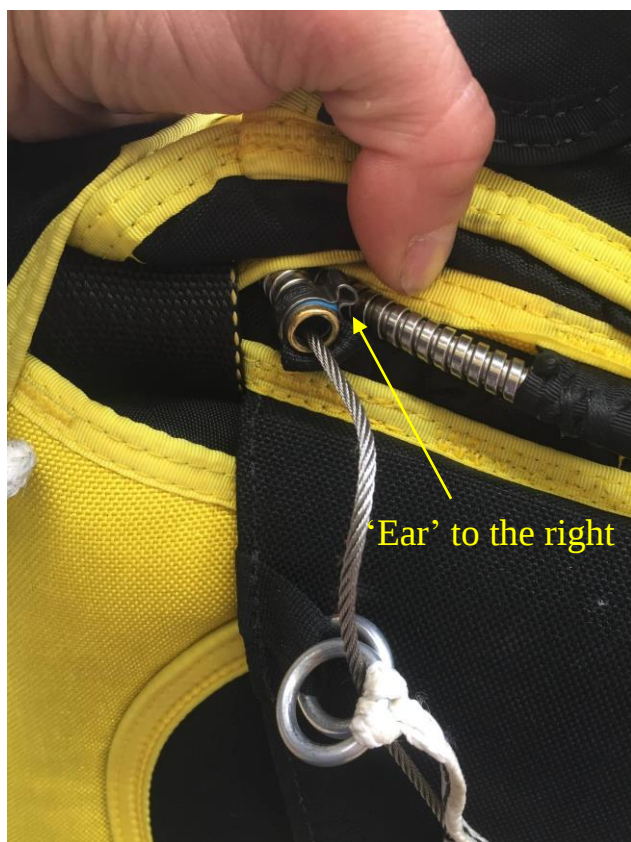

Figure 1
1. On the Sky Wide Systems (SWS) Fire containers the reserve cable housing is attached under the reserve flap by a metal clamp known as the '*ear*'. According to the manufacturer's instructions, the '*ear*' should be facing to the right (see figure 1).